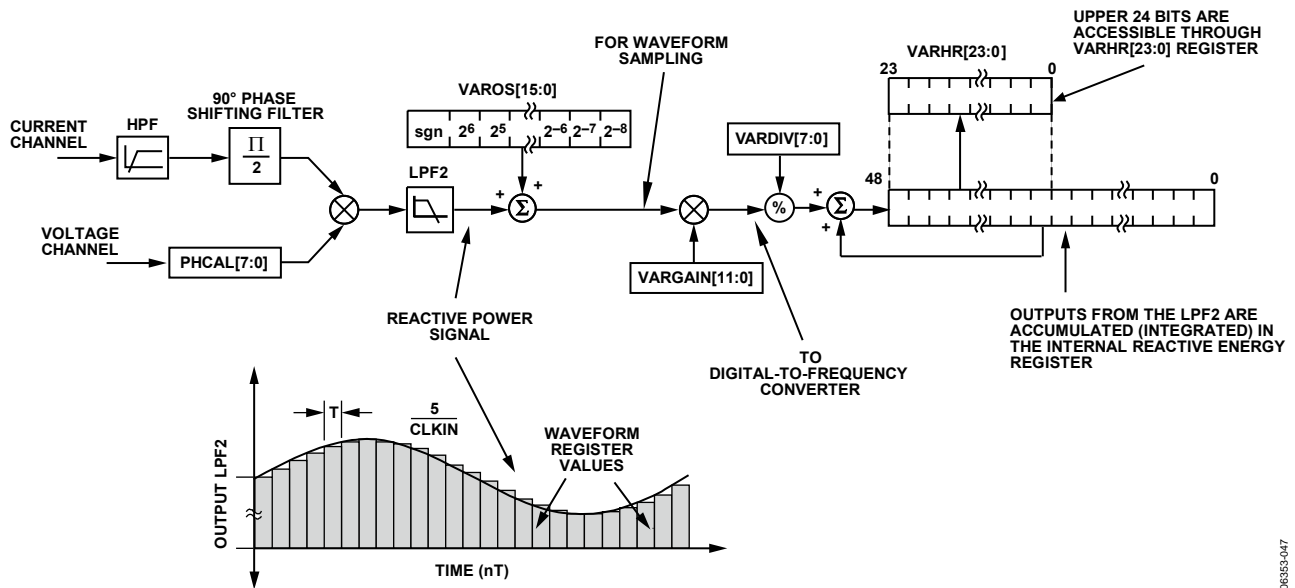

Figure 72. Reactive Energy Calculation
The instantaneous reactive power signal $q(t)$ is generated by multiplying the voltage and current channels. In this case, the phase of the current channel is shifted by 90°. The dc component of the instantaneous reactive power signal is then extracted by a low-pass filter to obtain the reactive power information (see Figure 72).
Figure 72 shows the signal processing chain for the ADE7169/ADE7569 reactive power calculation. As explained in the Reactive Power Calculation (ADE7169/ADE7569) section, the reactive power is calculated by applying a low-pass filter to the instantaneous reactive power signal. Note that, when reading the waveform samples from the output of LPP2, the gain of the reactive energy can be adjusted by using the multiplier and by writing a twos complement, 12-bit word to the var gain register (VARGAIN[11:0], Address 0x1E). Equation 25 shows how the gain adjustment is related to the contents of the var gain register.
The ADE7169/ADE7569 also incorporate a reactive power offset register (VAROS[15:0], Address 0x21). This signed, twos complement, 16-bit register can be used to remove offsets in the reactive power calculation (see Figure 72). An offset can exist in the reactive power calculation due to crosstalk between channels on the PCB or in the IC itself. The offset calibration allows the contents of the reactive power register to be maintained at 0 when no power is being consumed.
The discrete time sample period (T) for the accumulation register in the ADE7169/ADE7569 is $1.22 \mu\text{s}$ ($5/\text{MCLK}$). As well as calculating the energy, this integration removes any sinusoidal components that may be in the active power signal. Figure 72 shows this discrete time integration or accumulation. The reactive power signal in the waveform register is continuously added to the internal reactive energy register.
As shown in Figure 72, the reactive power signal is accumulated in an internal 49-bit, signed register. The reactive power signal can be read from the waveform register by setting the WAVMODE register (Address 0x0D) and setting the WFSM bit (Bit 5) in the Interrupt Enable 3 SFR (MIRQENH, Address 0xDB). Like the current and voltage channel waveform sampling modes, the waveform data is available at sample rates of 25.6 kSPS, 12.8 kSPS, 6.4 kSPS, and 3.2 kSPS.